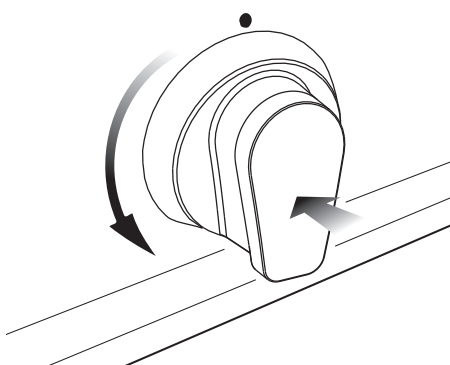

Fig. 2.4
1. Push and turn the knob in an anti-clockwise direction up to the position **Hi** (maximum rate of inner + outer crown); push in and hold the knob until the flame has been lit (fig. 2.4).
2. Push and turn the knob in an anti-clockwise direction up to the position **Hi** (maximum rate of inner + outer crown); push in and hold the knob until the flame has been lit (fig. 2.4).